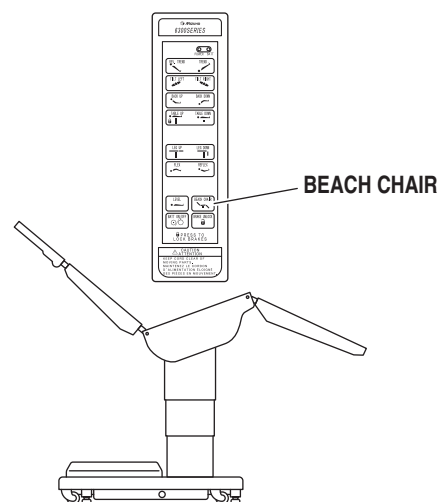

Figure 2-15. Beach Chair Positioning
i. Beach Chair To place the top in the beach chair position from a level position, press the BEACH CHAIR button (figure 2-15). The back section will raise, the leg section will lower and the Trendelenburg positioning will function simultaneously. The functions will stop when the back section reaches its limit.